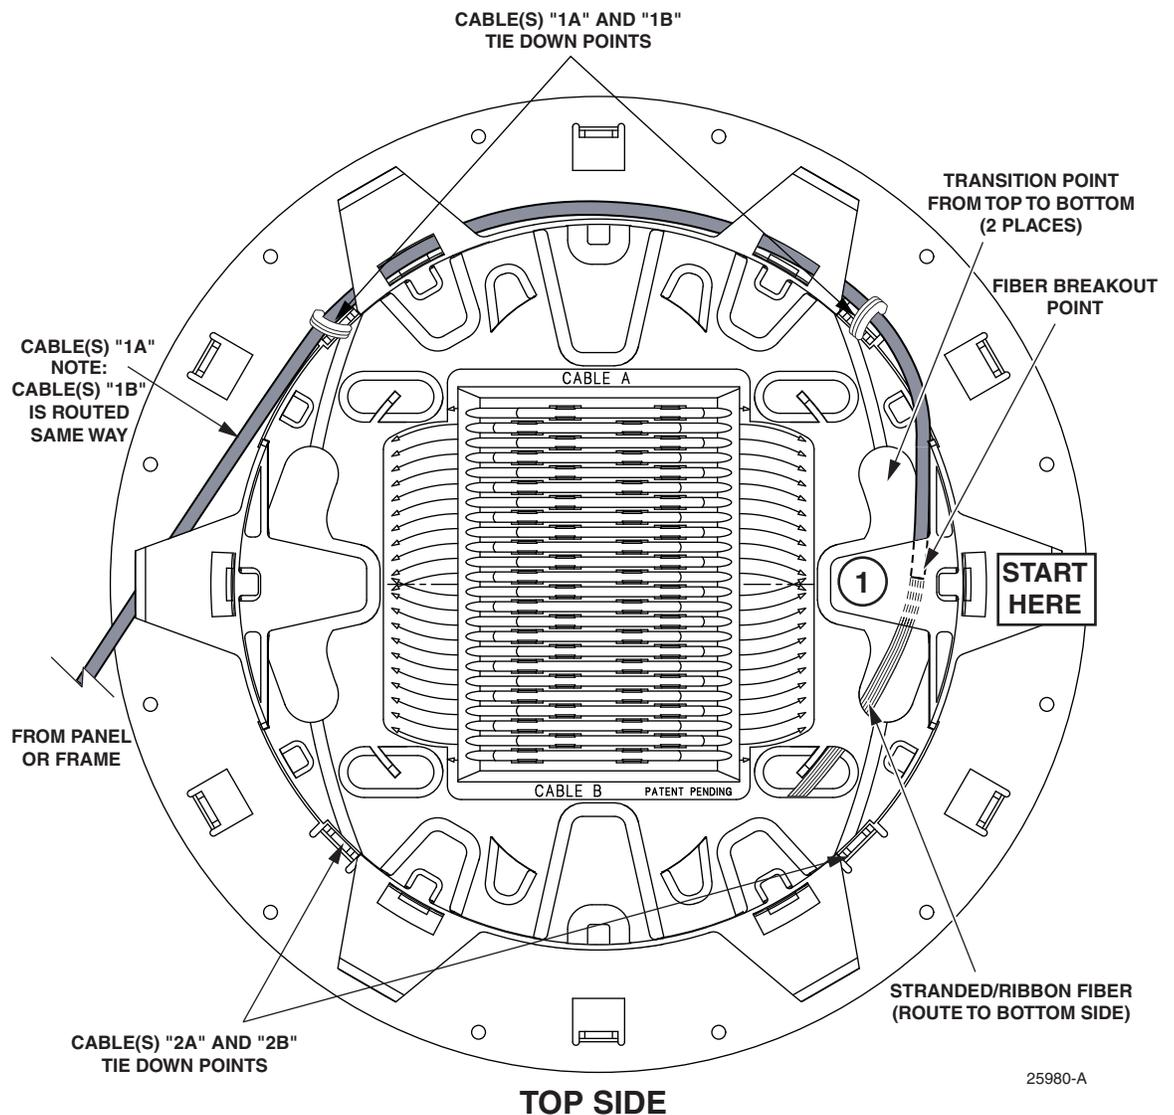

Figure 13. Cable "1A" Routing, Top Side (Clockwise Roll-Up Procedure)
1. Route the cable so the fiber breakout is positioned at the transition point from top to bottom (refer to the "circled 1" in Figure 13). Then route and tie down cable(s) "1A" as shown in Figure 13. (Cable(s) "1B", not shown, is routed simultaneously in the same manner.)
► **Note:** The circled numbers shown in Figure 13, Figure 14, and Figure 15 are provided as an orientation aid when flipping the cable over.